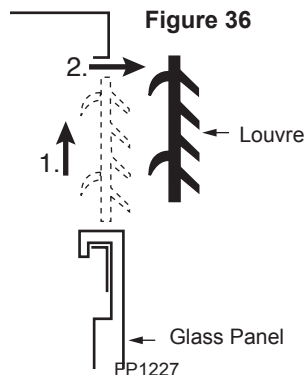

Figure 36
- The top side and top end louvres are removed by simply lifting the louvre assembly and pulling the assembly away from the fireplace. (Fig. 36)